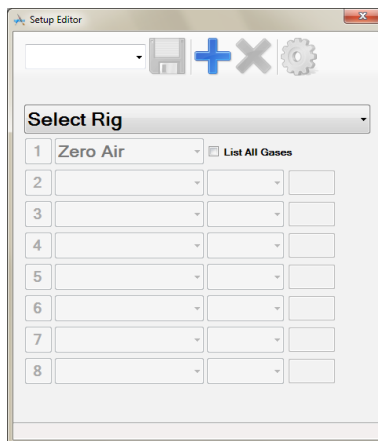

Fig. 6-4 New Setup
2. Select 'New Setup'  button from the 'Setup Editor' window. The window illustrated in Fig 6.4 is displayed: